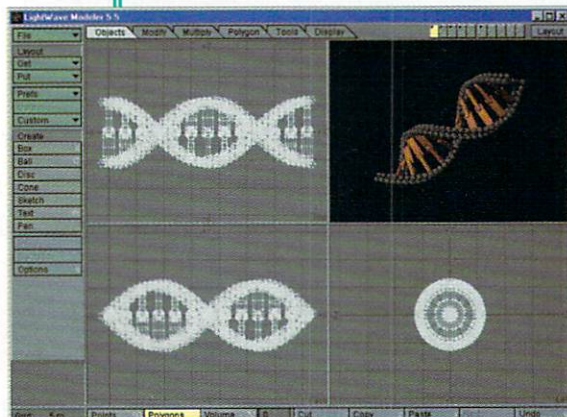

Figure 1
1. Open LightWave and press the Modeler button to enter Modeler. You need to load in the DNA object from the last article. Now press [a] to fit the object in the views nicely. Your Modeler screen should look like *Figure 1*. We need to perform some minor surgery on our object to prepare it for use in this section so let's make a copy of it [c] and switch to the second Modeler layer [2] and then paste the copy [v]. Your window should look like *Figure 1* with the exception that we are now on layer 2.